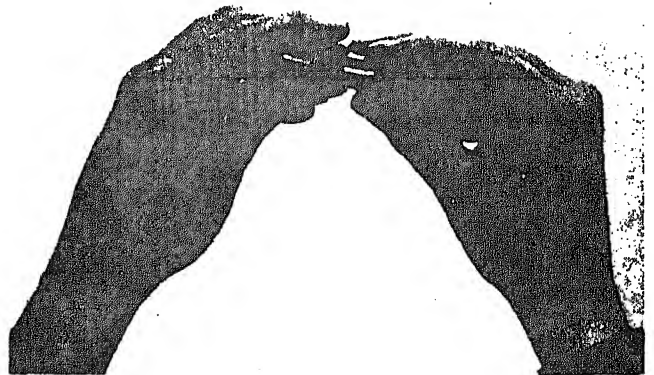
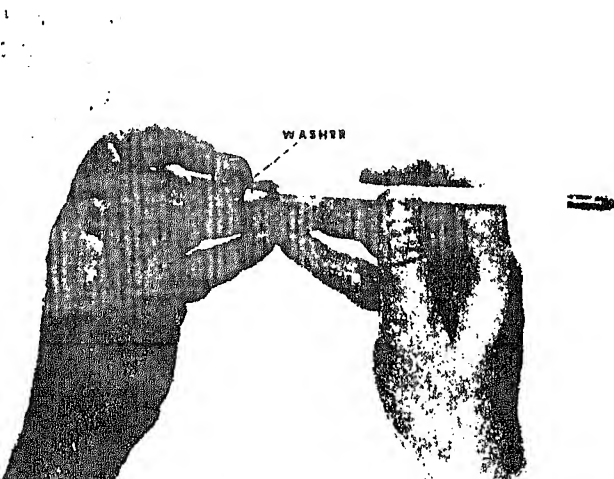

Fig. 507-5 Installing governor plunger
Fig. 507-4 Installing washer over plunger
1. PT (type G) Fuel Pump: Assemble screw into plunger guide, place small copper washer over screw point inside plunger guide. Fig. 507-4. Place small idle spring into plunger guide and place idle plunger (button) against spring in plunger guide. Fig. 507-5.